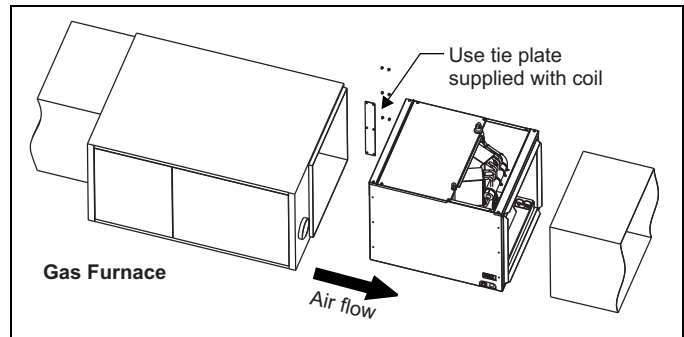

FIGURE 7: Horizontal Left or Right application (Right Shown)
These coils are supplied ready to be installed in a right hand position or a left hand position. When used in conjunction with a horizontal furnace (blow through) application, the coil should be oriented with the opening of the "A" coil closest to the furnace. See Figure 7.
**NOTE:** Each coil is shipped with an external tie plate that should be used to secure the coil to the furnace. It should be installed on the back side of the coil using the dimpled pilot holes. See Figure 7.